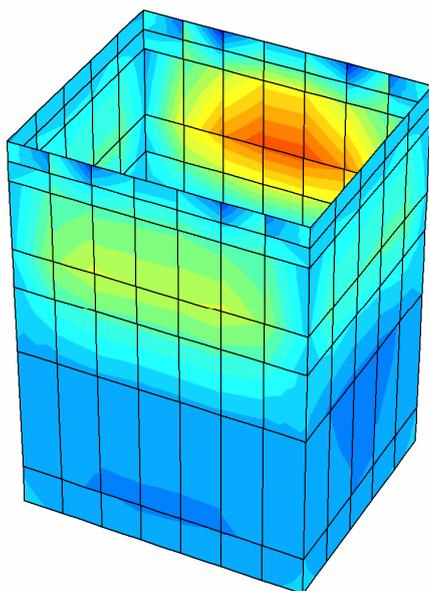

Figure 7.6 Bending moments in the sheet pile wall at the end of the final phase
- Switch to one of the work planes and click on the wall and interfaces to open output for the walls in a separate window. From the selection box, choose output for the wall. Change to deformation shadings and afterwards to bending moments, shaded (see Figure 7.6).